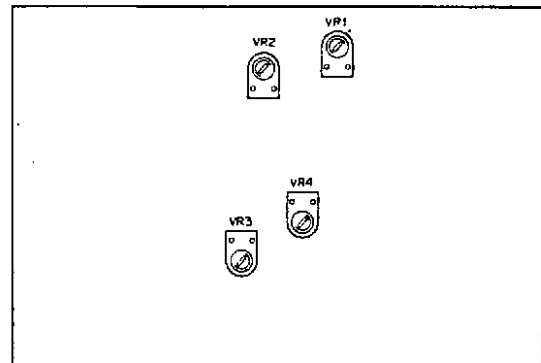

Fig. 28 AF · AVR unit
- 3) Turn OFF RIT switch and adjust VR2 in AF AVR unit (X49-1080-00) until the beat frequency is kept unchanged when RIT switch is turned ON and OFF (refer to Fig. 28).